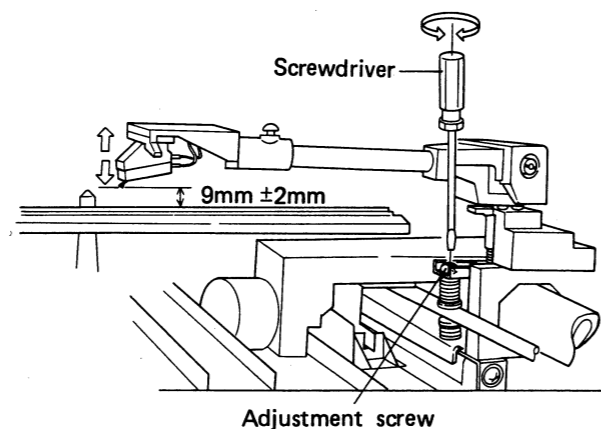

Fig. 11-2 Arm-elevation adjustment
*When lifting the arm elevation, also check that the stylus is $9\text{mm} \pm 2\text{mm}$ above the record surface, and that the elevation tip rests in the V-shaped groove (Fig. 11-2).